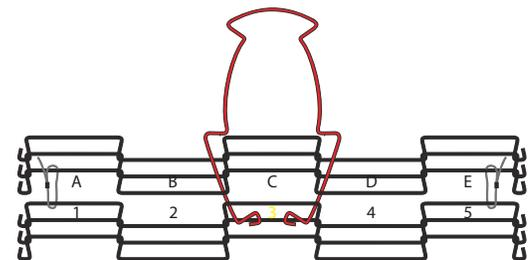

Figure 2
5. Insert the strand ends into the center space of the opposite edge (Space 3 in Figure 2).